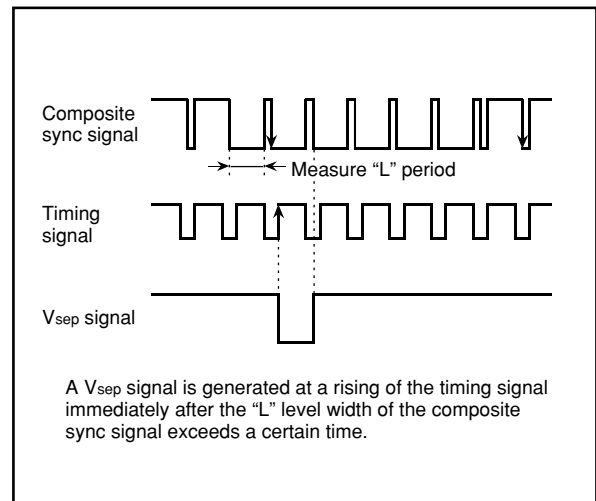

Fig. 28. V_{sep} Generating Timing (method 2)
- Method 2 The "L" level width of the composite sync signal is measured. If this width exceeds a certain time, it is detected whether a falling of the composite sync signal exists or not in the "L" level period of the timing signal immediately after this "L" level. If a falling exists, a V_{sep} signal is generated in synchronization with the rising of the timing signal (refer to Figure 28).
Figure 28 shows a V_{sep} generating timing. The timing signal shown in the figure is generated from the reference clock which the timing generating circuit outputs.